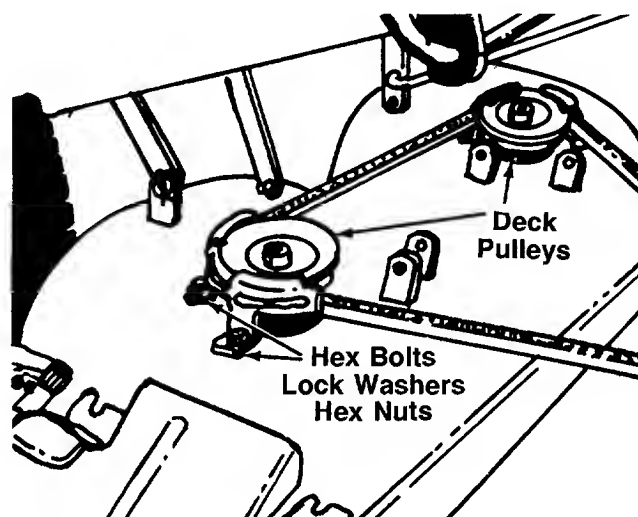

FIGURE 2.
7. Remove the belt guards at each deck pulley by removing the hex bolts, lock washers and hex nuts. See figure 2.